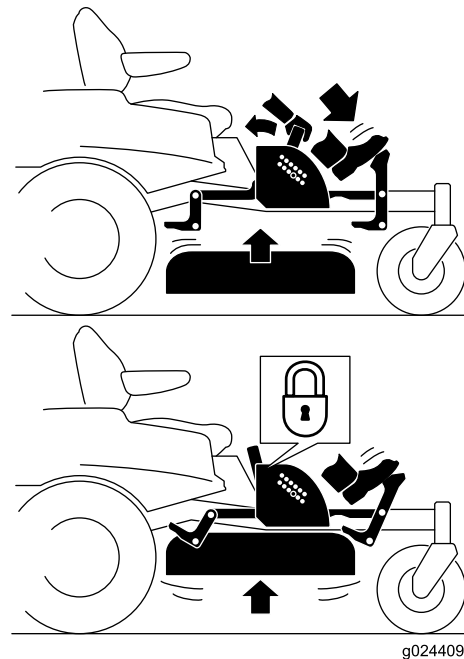

Figure 37
- Press the deck-lift pedal down to raise the deck; continue to press the pedal until the deck locks in the transport position (Figure 37).
- Push on the deck-lift pedal with your foot and pull the transport lock handle rearward to disengage the transport lock (Figure 37).
4. Push on the deck-lift pedal with your foot and pull the handle rearward to disengage the transport lock (Figure 37).